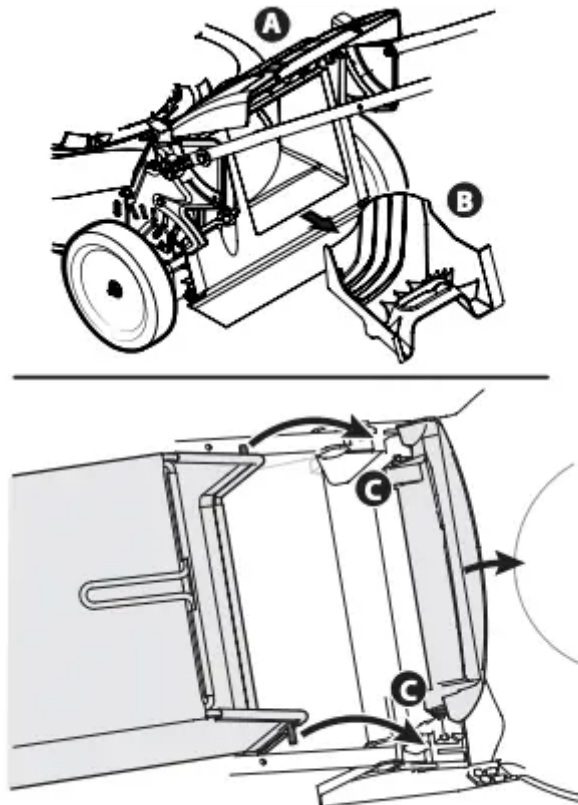

Figure 5
2. Follow steps below to attach grass catcher. See Figure 5.